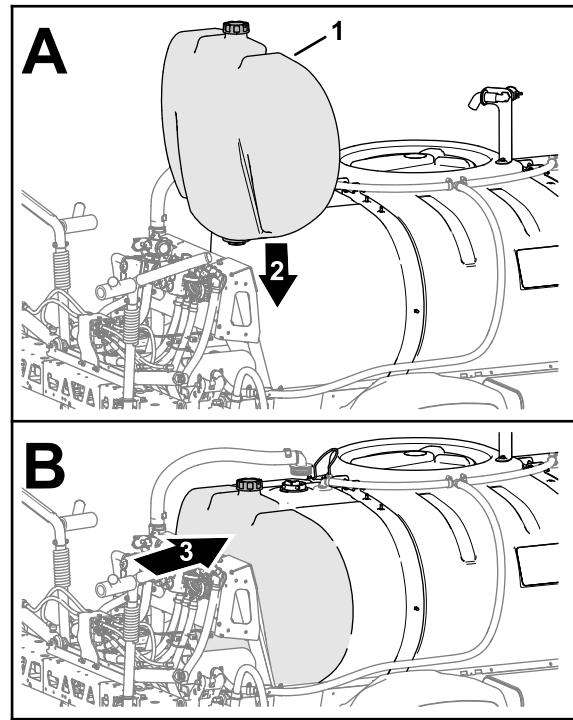

Figure 12
4. If your machine has the optional rinse tank kit installed, align the tank to the machine as shown in figure Figure 12.